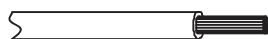

Fig. 17 — Stripping the Wire
2. Strip a suitable length of the insulation layer as shown in Fig. 17 below.